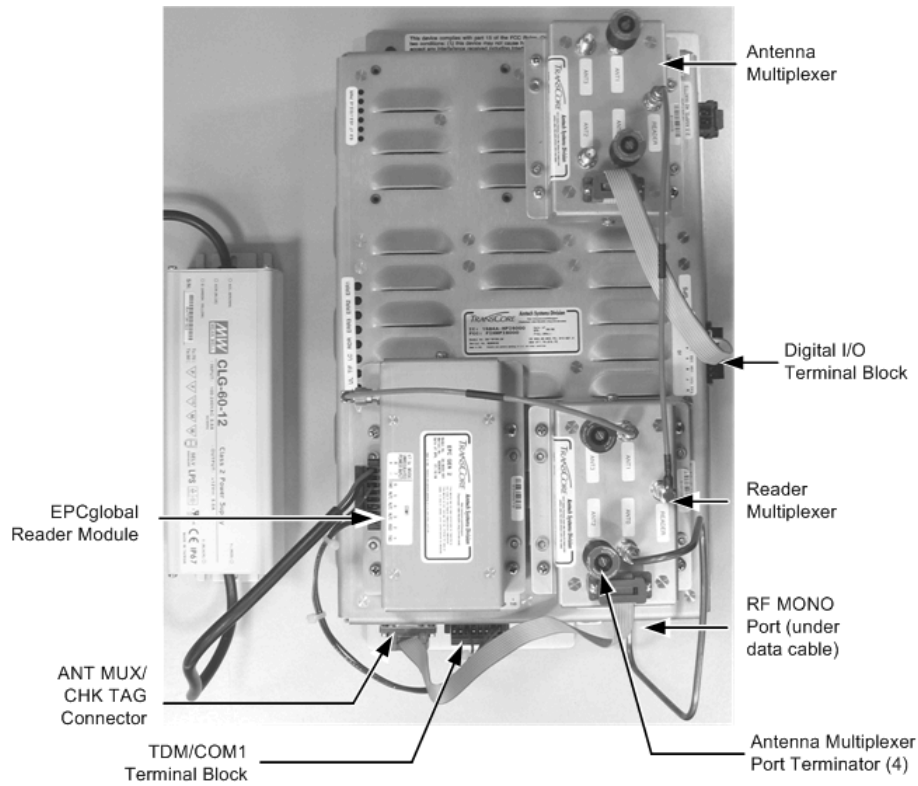
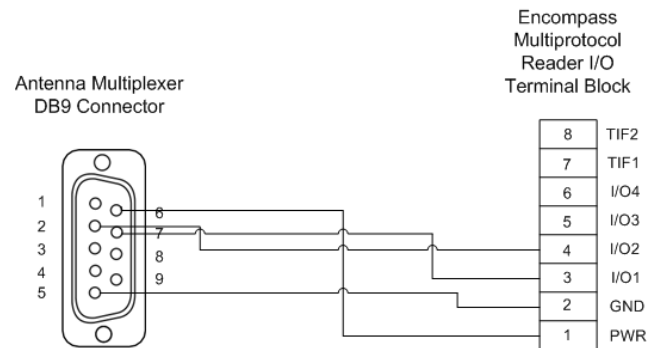

Figure 1. Encompass Multiprotocol Reader Showing EPCglobal Reader Module and Reader and Antenna Multiplexers
Figure 3. Antenna Multiplexer-to-Digital I/O Wiring Diagram
5. Connect EPCglobal Reader Module to reader multiplexer (ANT1 port) using the RF cable provided. Tighten all RF cable connections to 10 in/lb (Figure 1).
Figure 1 shows the properly assembled EPCglobal Reader Module and reader and antenna multiplexer configuration on the Encompass reader.
1. Install the reader multiplexer assembly on the Encompass reader housing using the four standoffs provided (Figure 1). Secure the module to the reader housing using the Phillips screws provided with the kit.
2. Install the EPCglobal Reader Module on the Encompass reader housing and using the four standoffs provided (Figure 1). Secure the module to the reader housing using the Phillips screws provided with the kit.
4. Connect the reader multiplexer assembly (ANT0 port) to the Encompass reader (RF MONO port) with the RF cable and tighten both SMA connectors to 10 in/lb (Figure 1).
1. Install the antenna multiplexer assembly on the Encompass reader housing using the four standoffs provided (Figure 1). Secure the module to the reader housing using the Phillips screws provided with the kit.
2. Connect the antenna multiplexer to the external digital input/output (I/O) port on the Encompass reader (Figure 1 and Figure 3).